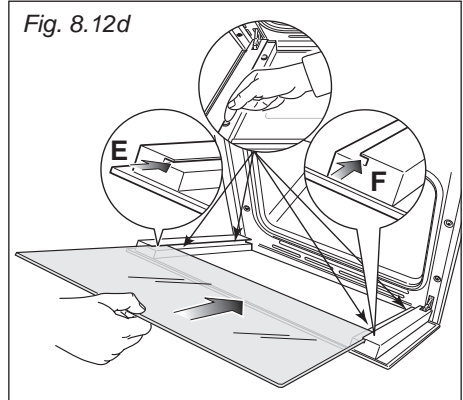

Fig. 8.12d
IMPORTANT: It is advisable, while refitting the glass, to keep pressed in position the four rubber pads "D", by a finger, to avoid breakage or slippage of the rubber pads themselves (fig. 8.12d).
- Insert the pane in the left "E" and right "F" slide guides (fig. 8.12d), and gently slide it to the retainers "H" (fig. 8.12e).